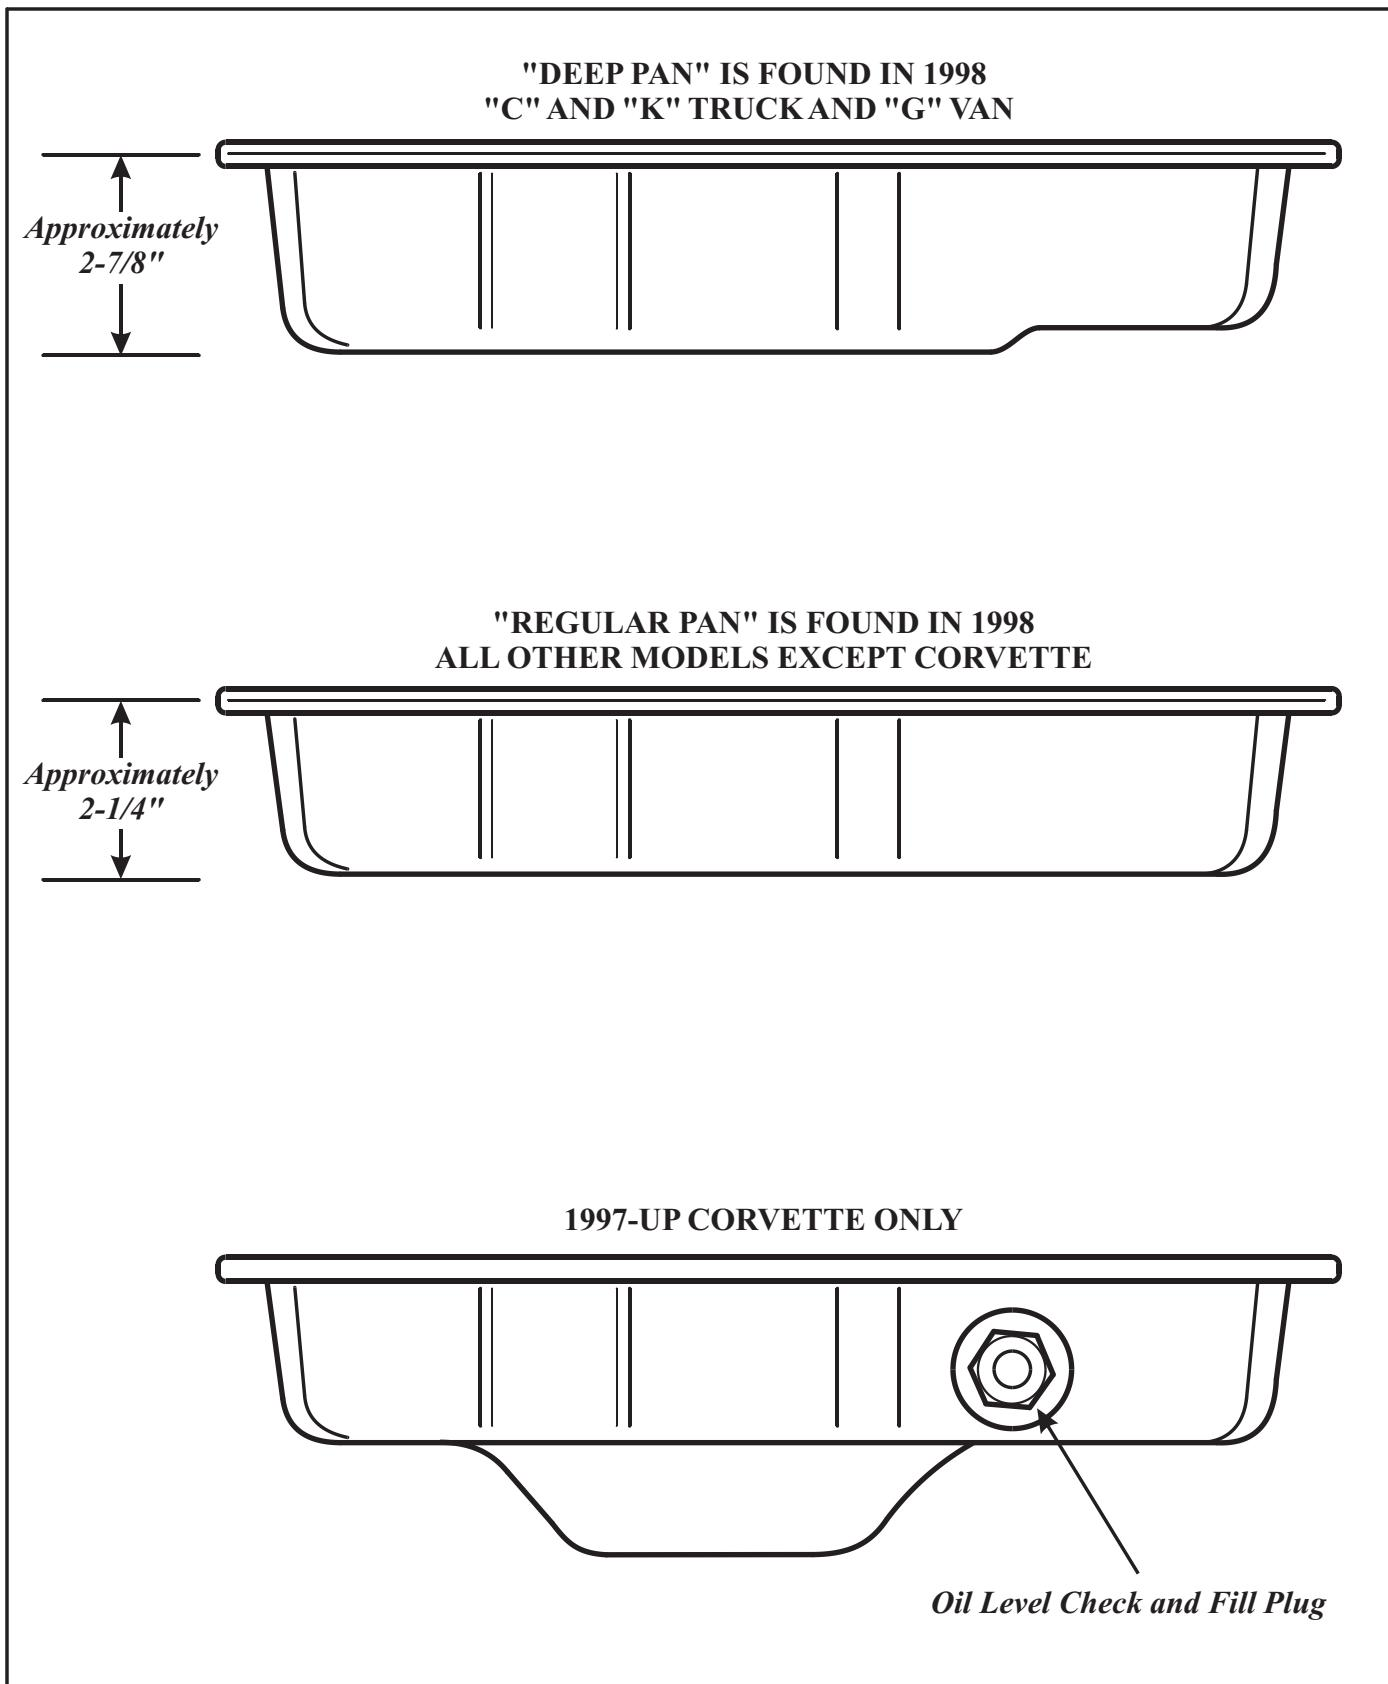

Figure 3
- (1) BOTTOM PAN - New design is approximately 17mm deeper than the regular pan, and all three bottom pans used in 1998 models are illustrated in Figure 3 for identification purposes.